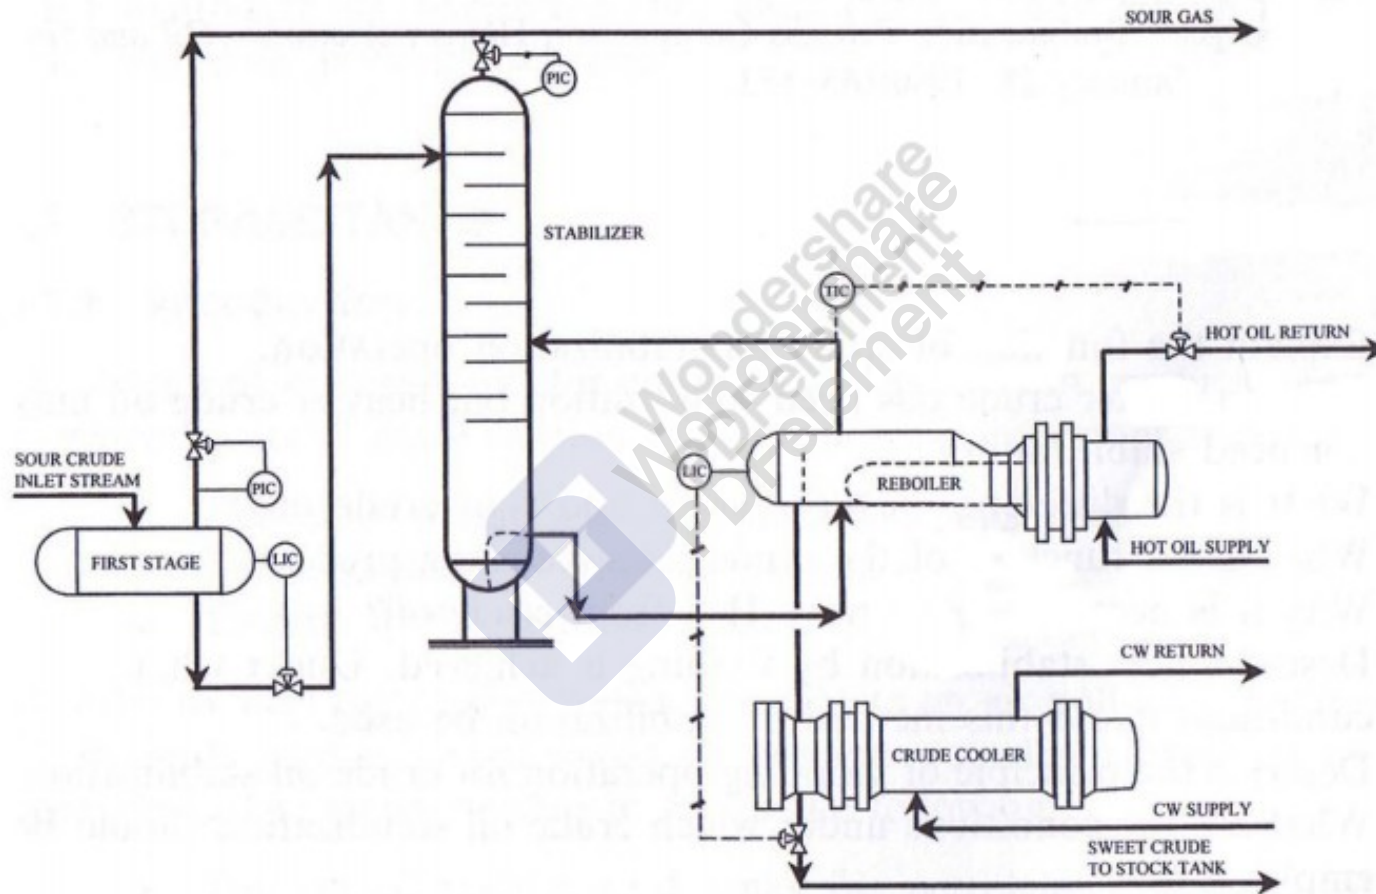

Figure 7 Crude sweetening by reboiled trayed stabilization.
- A typical reboiled trayed stabilizer is shown in Figure 7.